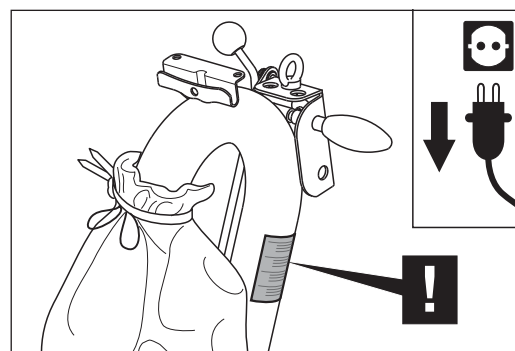

Fig. 42 Note the warning on the guide tube!
- Note the warning on the guide tube (fig. 42)!